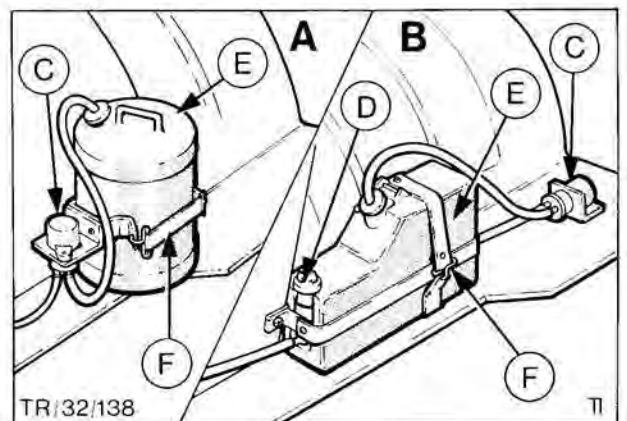

Fig. 37. A – Windscreen washer system
3. Disconnect supply pipe from pump where fitted to reservoir, Fig. 37.